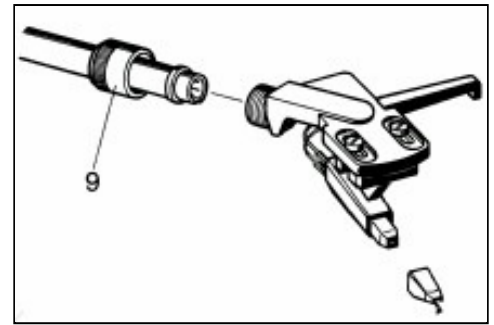

Fig. 7
Instead of the factory-supplied pick-up cartridge any other cartridge with standard half-inch mounting holes and a weight between 3 and 10 grams can be installed. To do this loosen the collar-lock (9) and pull off the head shell (Fig. 7). Unscrew the cartridge and carefully remove the coloured signal leads from the cartridge pins with a pair of tweezers. Screw the new cartridge onto the head shell but do not tighten. Attach the leads to the pins while observing the correct coding.